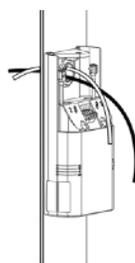

*Fig 7*
1. Ensure the breakers are turned off. Connect 3 voltage tap cables to breakers. *Fig 7.*